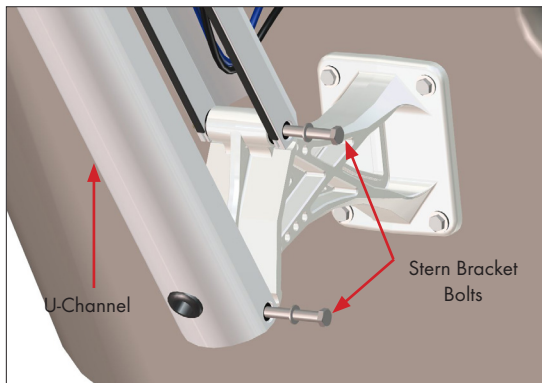

Figure 1
**STEP 1** Remove both **Stern Bracket Bolts** and all mounting hardware using a **9/16" Socket & Wrench**. **FIG 1 & 2**